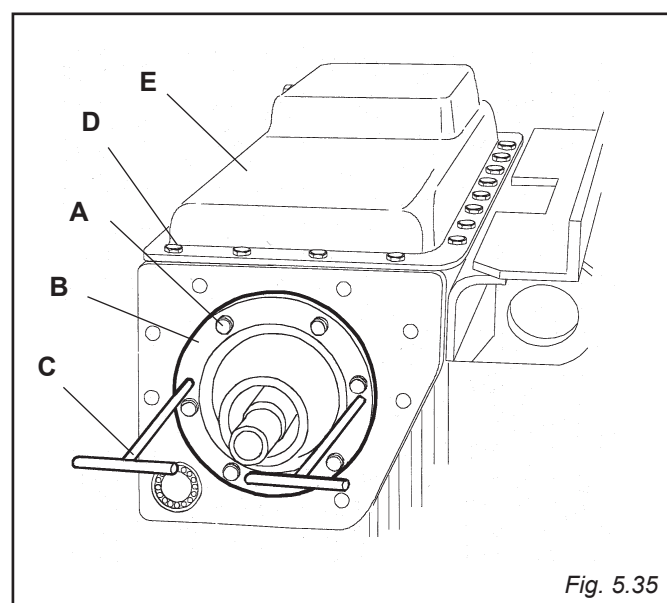

Fig. 5.35
5.46 REAR MAIN BEARING (FIG. 5.35)
5.47 SUMP (FIG. 5.35)